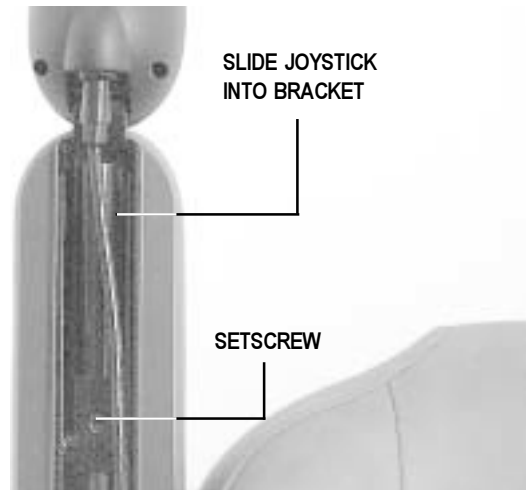

Figure 14. Joystick
1. Use a 3/16-in. hex key to loosen the setscrew under either armrest. See figure 14.